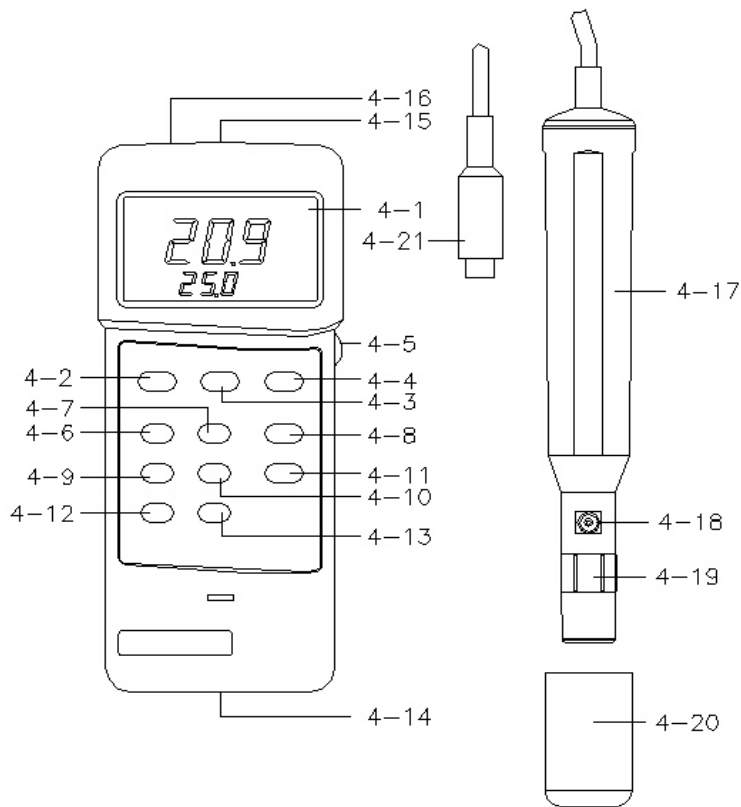

Fig. 1
- 1) Disconnect the " OXYGEN PROBE plug " ( 4-21, Fig. 1 ) from the " Probe input socket " ( 4-15, Fig. 1 ).
- 2) Power on the instrument by pushing the " Power Off/On button " ( 4-2, Fig. 1 ).
- 3) Slide the " O2/DO selector " ( 4-11, Fig. 1 ) to the " O2 " position.
Push the " Zero button " ( 4-9, Fig. 1 ) and the display will show zero value.
- 4) Connect the " Oxygen probe plug " ( 4-21, Fig. 1 ) with the " Probe input socket " ( 4-15, Fig. 1 ). Wait for approx. 5 minutes at least until the display reading values become stable & no fluctuation. Push the " O2 Cal. button " ( 4-12, Fig. 1 ) and the display will show the values exactly same as 20.9 or 20.8. (As the oxygen in air is 20.9 % typically, so use the environment air O2 value for quick & precise calibration).
- 2) Slide the " O2/DO selector " ( 4-11, Fig. 1 ) to the " DO " position.
- a. Push the " % Salt button " ( 4-10, Fig. 1 ) first, and the display will show. :
- b. Push the " Factor Adj. button " ( 4-8, Fig. 1 ) once will add " 1 % " to the original salt % value until the adjusting reading reach the desired salt values. Then push the " % Salt button " ( 4-10, Fig. 1 ) again to finish the adjusting procedures. At this moment the new % salt values will be executed.
- a. Push the " MT ( Height) button " ( 5-13, Fig. 1 ) first, then the display will show
- b. Push the " Factor Adj. button " ( 4-8, Fig. 1 ) once will add " 100 meters " to the original height values until the adjusting reading reach the desired height values ( meters ). Then push the " MT ( Height) button " (4-13, Fig. 1) again to finish the adjusting procedures. At this moment the new height values (display unit is the " meters ") will be executed.
2) Slide the " O2/DO selector " ( 4-11, Fig. 1 ) to the " O2 " position.
\* Push the " °C/°F button " ( 4-4, Fig. 1 ) once to select measuring unit in °C or °F.
During the measurement, Push the " Data Hold button " ( 4-3, Fig. 1 ) will hold the display values & LCD will show the " D.H " marker.
\* The DATA RECORD function displays the maximum, minimum and average readings. To start the DATA RECORD function, press the " Memory Record button " ( 4-6, Fig. 1 ) once. " REC " symbol will appear on the LCD display.
- (a) Push the " Memory CALL button " ( 4-7, Fig. 1 ) once, the " Max " symbol along with the maximum value will appear on the display.
To de-activate this feature, select the memory record function during measurement by pressing the " RECORD " button ( 4-6, Fig. 1 ).
This is achieved by controlling the " LCD Contrast Adjust " pot ( 4-5, Fig. 1 ).
The instrument features an RS232 output via 3.5 mm Terminal ( 4-16, Fig. 1). The connector output is a 16 digit data stream which can be utilized to the user's specific application.